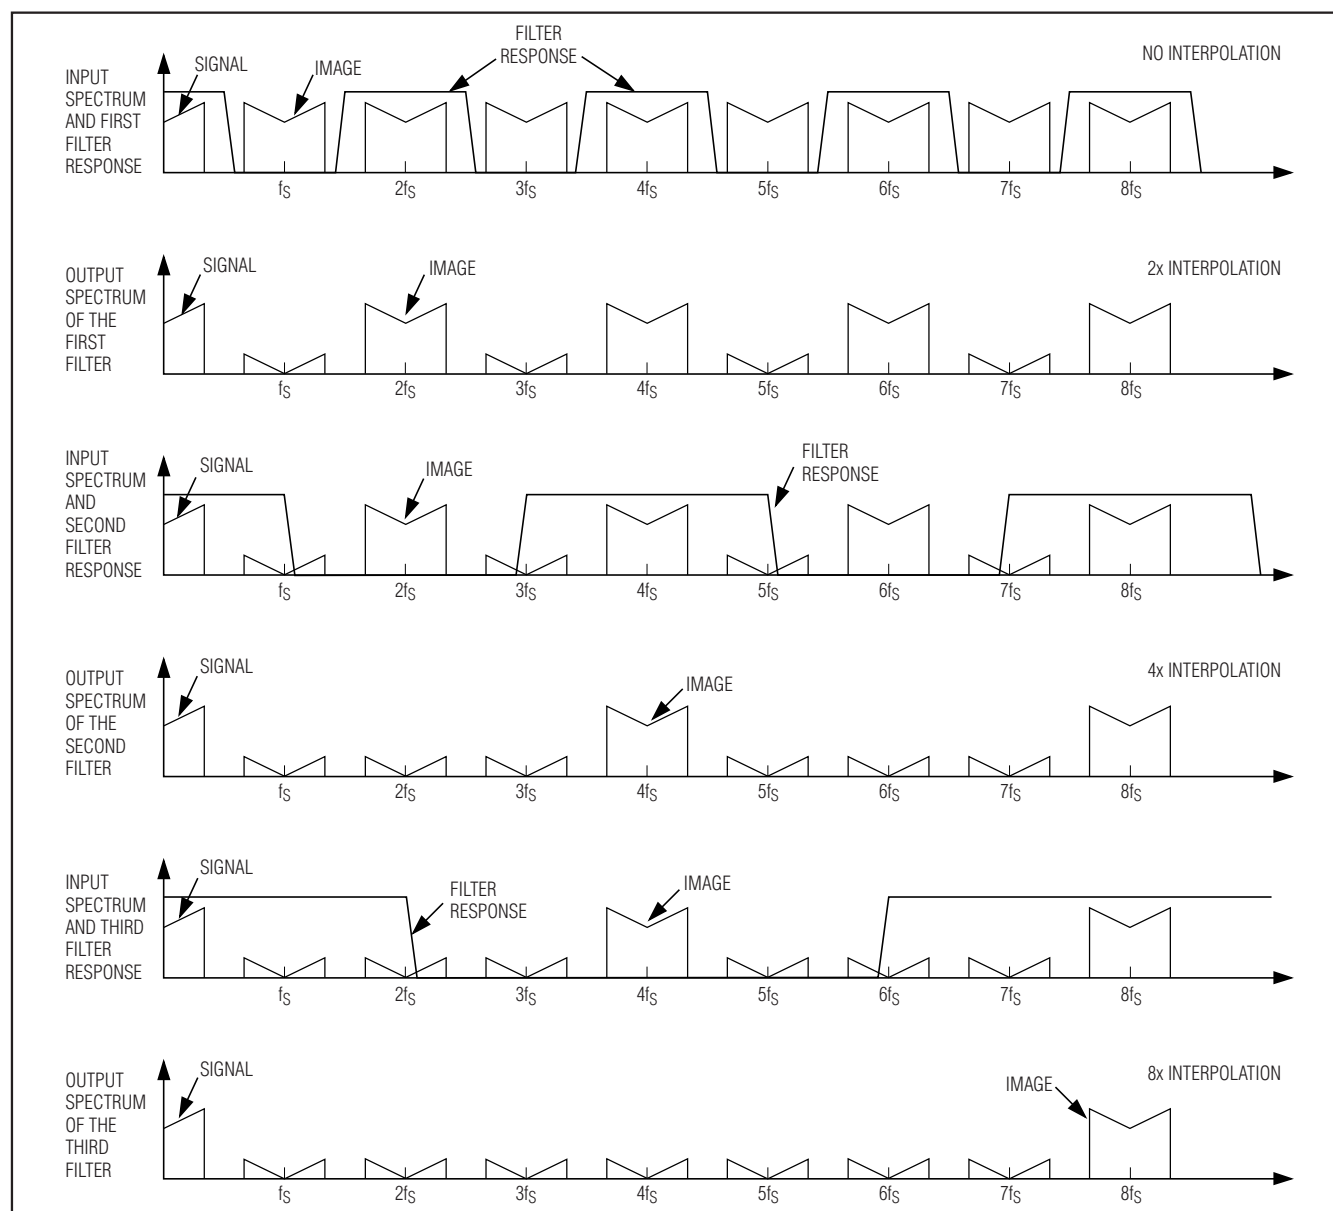

Figure 9. Spectral Representation of Interpolating Filter Responses (Output Frequencies are Relative to the Data Input Frequency,  $f_s$ )
3)  $\text{Sin}(x)/x$  rolloff is reduced over the effective bandwidth. Figure 9 illustrates a practical example of the benefits when using the MAX5895 in 2x, 4x, and 8x interpolation modes with the third filter configured as a lowpass filter. With no interpolation filter, the first image signal appears